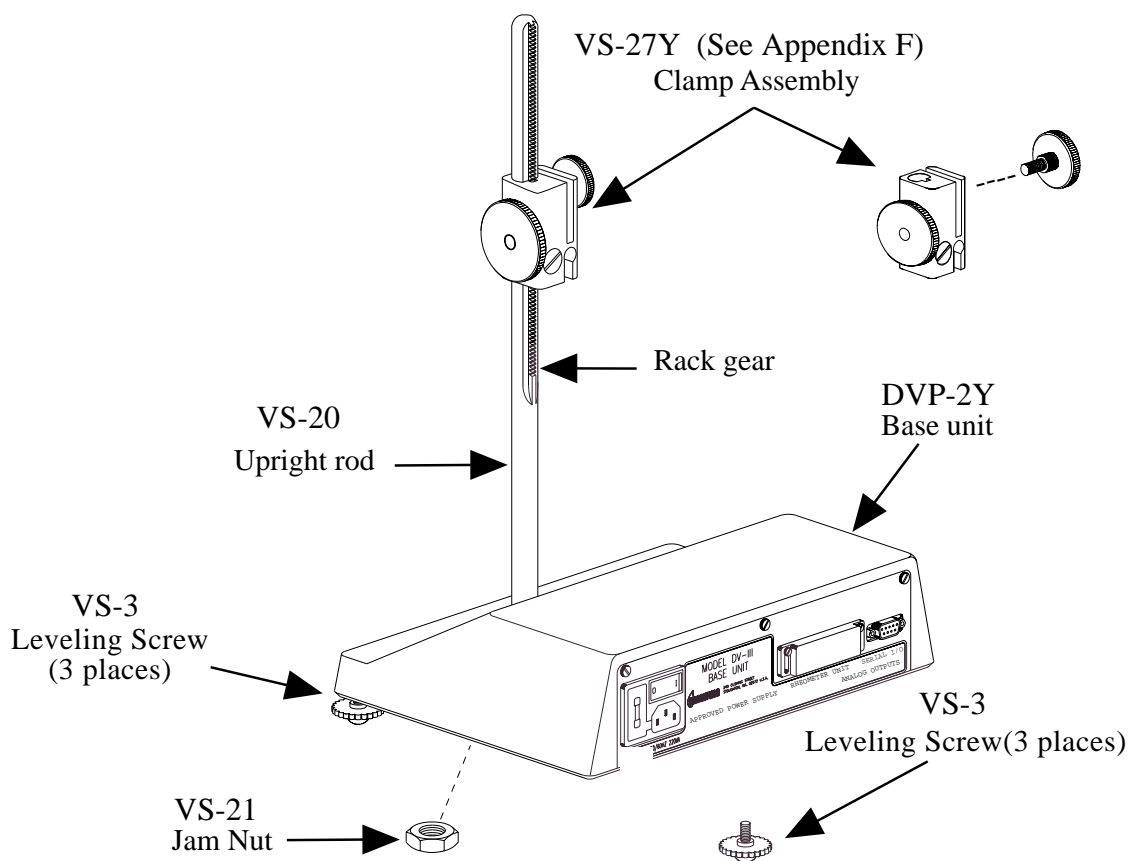

Figure 1 (Rear View)
- 1) Place the upright rod into the hole at the front of the base. The rack gear and clamp assembly should face the rear of the base (see Figure 1). The upright rod is held in place with the jam nut which is attached from the bottom of the base. Tighten this nut with a suitable wrench (spanner).
- 6) The Rheometer must be leveled before the instrument is zeroed and readings are taken. The level is adjusted using the three leveling screws on the base. Adjust so that the bubble level on top of the DV-III (Figures 1, 2) is centered within the circle.